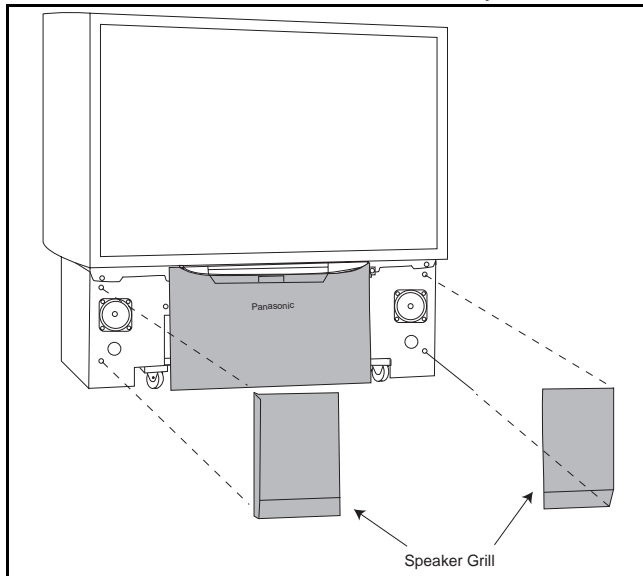

Figure 8. Speaker Grille Removal.
Speaker Grille Removal (Figure 8.)
Keyboard Removal (7-Key Button) (Figure 8)
1. Remove the Speaker Grill. (see Figure 8)
2. Unplug the cables (2) from the Keyboard assembly. Remove the 2 screws from the left and right sides of Keyboard assembly. Tilt the Keyboard assembly upward and release it from the screen frame assembly.
1. Remove the speakers grill. (see Figure 8)
2. Each speaker set is secured to the cabinet with (4) screws.
1. Remove the Speaker Grill (Figure 8)